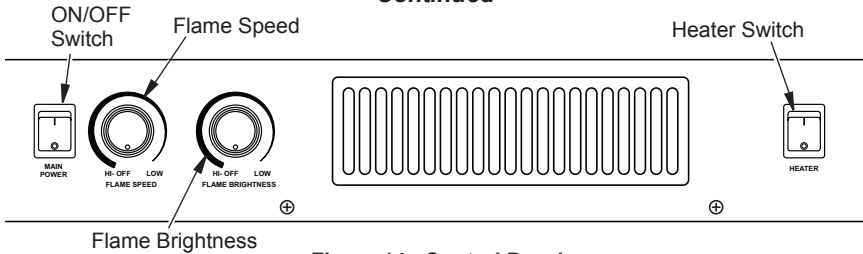

Figure 14 - Control Panel
Figure 14, page 8, shows control layout for heater equipped models with main power switch to flame controls and heater power switch (when equipped) to heating unit. This allows independent and efficient operation of both features.
2. Remove 2 Phillips screws holding control cover to control panel inside firebox (see Figure 14, page 8).